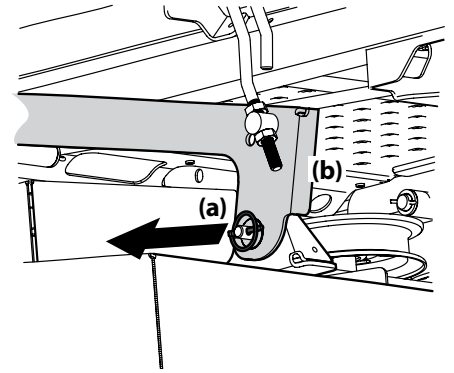

Figure 4-15
6. Locate the LH and RH deck release pins (a) on each side of the deck. Pull the deck release pins (a) outward and release the deck from the LH and RH deck lift arms (b). See Figure 4-15.
5. Pull the deck release pins outward and maneuver the deck as necessary to align the holes in the deck lift arms with the pins. Refer to Figure 4-15.